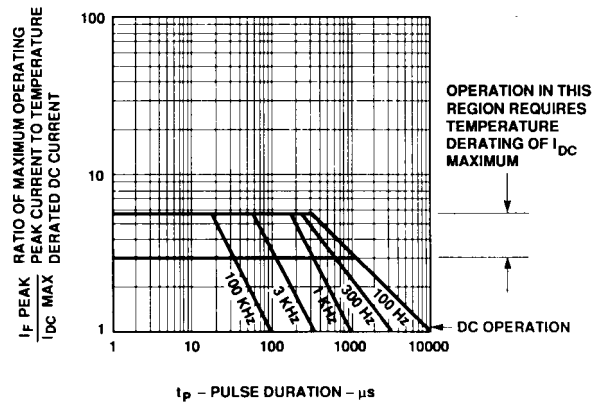

Figure 8. Maximum Tolerable Peak Current vs. Pulse Duration - Yellow.
- See Figure 8 to establish pulsed conditions.